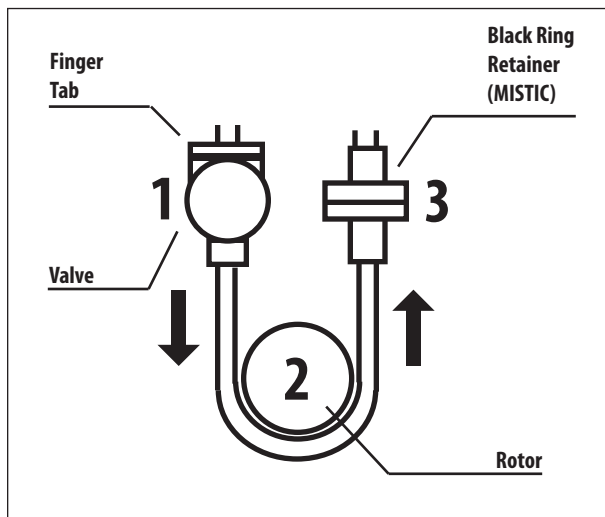

Figure 4.
3. To load pump set (refer to Figure 4):
- Grasp finger tab on valve and insert into left pocket (1).
- Grasp black ring retainer and gently stretch tubing around rotor (2). Pull up on retainer and insert into right pocket (3).